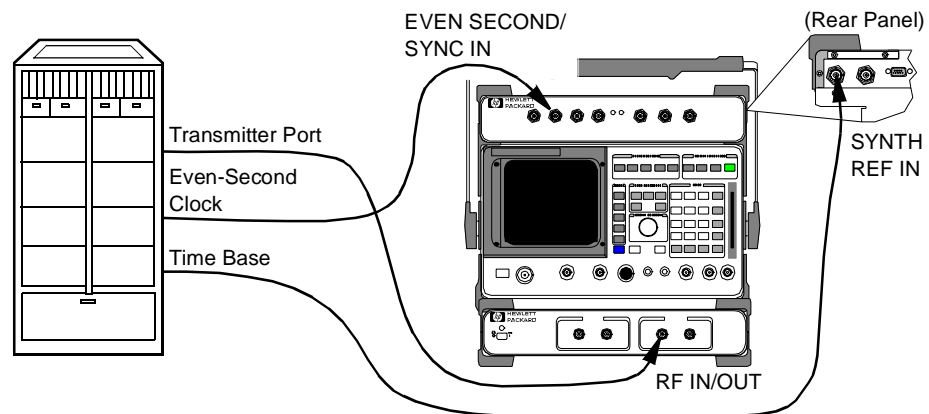

Figure 10
- 1 Connect the equipment as shown in figure 10.